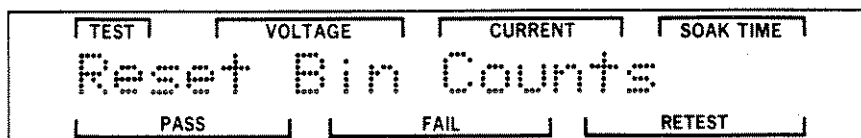

Figure 3-65. Reset Bin Count Totals Screen
STEP 4. Press the RIGHT pushbutton to enter the Detail screens. Press the UP or DOWN pushbutton until the Reset Bin Count Totals screen is displayed. Refer to Figure 3-65.